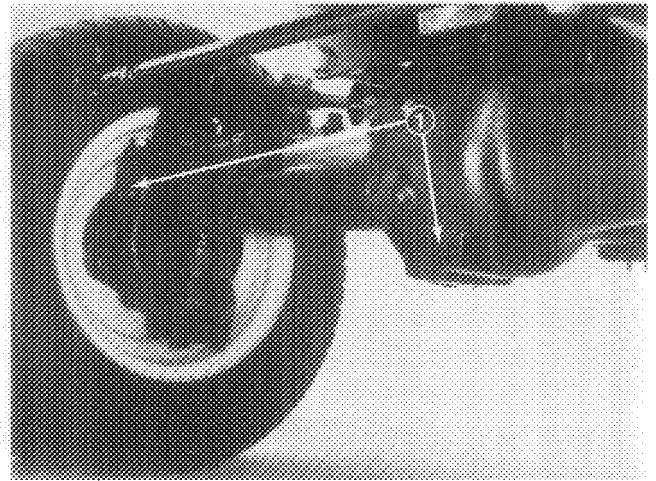

Figure 50
### CHANGING REAR AXLE LUBRICANT (Model 30455 only) (Fig. 50)
2. Clean area around the (3) drain plugs, (1) on each end and (1) in the center (Fig. 50).